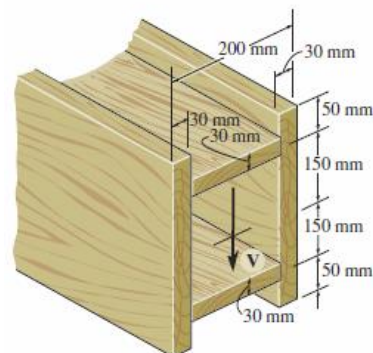

Fig. 3
3. If the beam is subjected to a shear force of  $V = 20 \text{ kN}$ , determine the maximum shear stress developed in the beam. [Fig. 3]